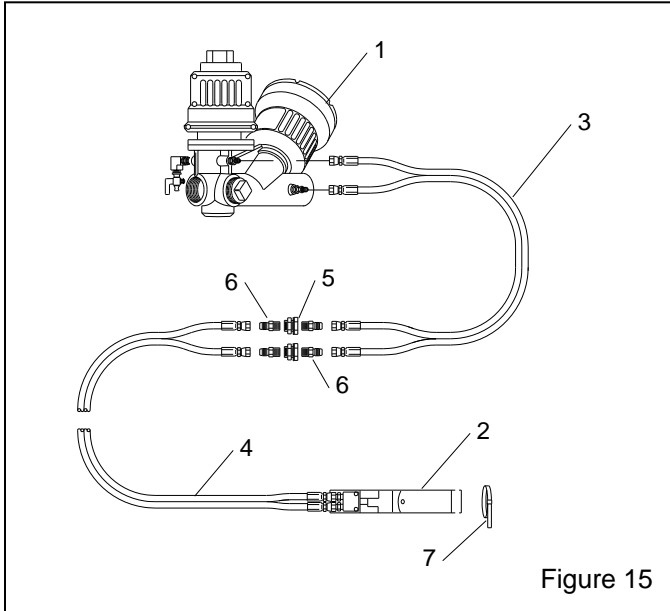

Figure 15
**8.3 Remote Control System Parts, Figure 15**